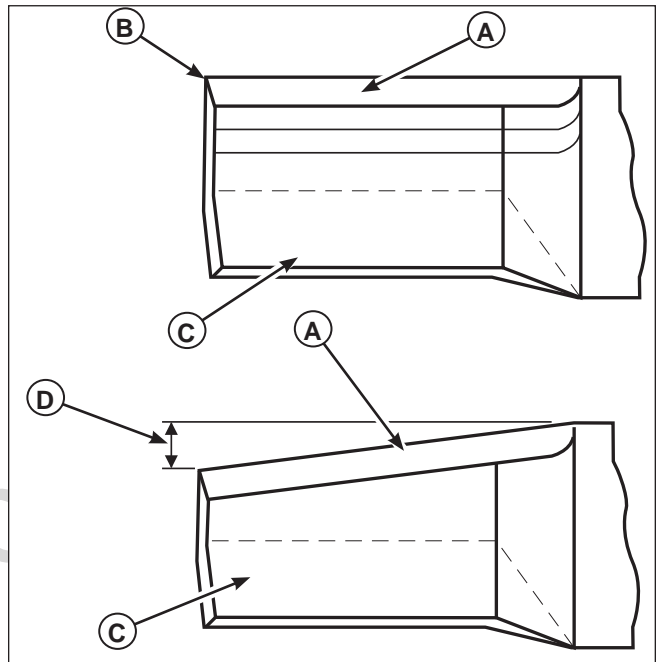

Figure 13. inspecting the Mower Blade Tips
2. Inspect the mower blade (Figures 13 & 14). **Discard the mower blade if it has any of the below conditions.**
- A.) Has more than .5" (12,7 mm) of the mower blade metal removed from previous sharpening or wear (D, Figure 13).